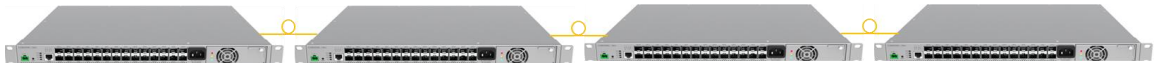

Figure 15. DEU Daisy chain connection
- Flexible network architecture: One DCU supports up to 16 DEUs* by star and/or daisy chain connections, which meets flexible site deployment requirement. The DEU connection topology is shown in figure 15.
1. DEU supports flexible network architecture of 4 level daisy chain connections as shown in figure 15.